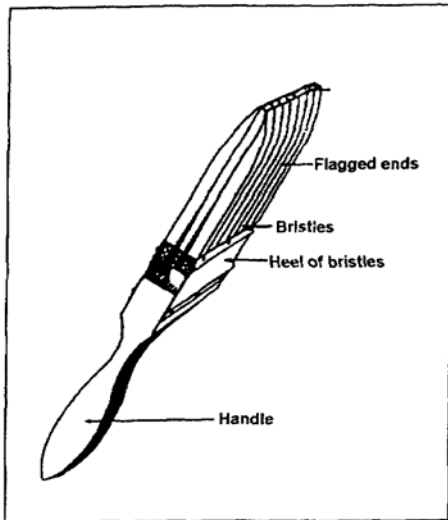
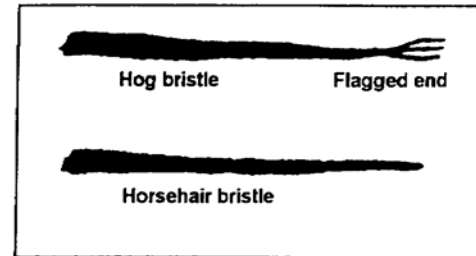

Figure 3-22. Principal paintbrush parts
Figure 3-23. Bristles
a. **Selection.** Besides choosing good-quality paintbrushes, you should also select brushes that are the right size and shape for the job. For example, using a small paintbrush on large surfaces not only wastes energy but also prevents proper paint spreading. Applying paint to a smooth surface requires good-quality paintbrushes. They are well-bristled, and the bristles are springy. The bristles of good-quality paintbrushes are flagged at the ends to hold and help spread paint; where as, poor-quality paintbrushes will neither hold paint well or spread it evenly. Figure 3-22 shows the principal paintbrush parts. Good-quality bristles are made from natural or synthetic bristles or a mixture of these materials (Figure 3-23).